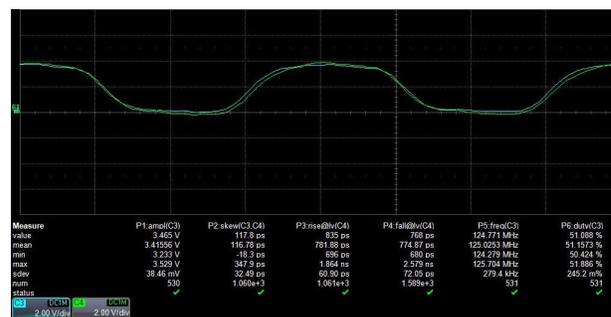

Figure 3-2. Competitor Outputs (5 pF 1.8 V to 3.3 V Up Translation at 125 MHz, 25°C)
- Figure 3-2 measures fall or rise times for TXV (measuring 484 / 417 ps) vs competitor (measuring approximately 2x slower rise or fall times >750 ps), violating RGMII requirement.